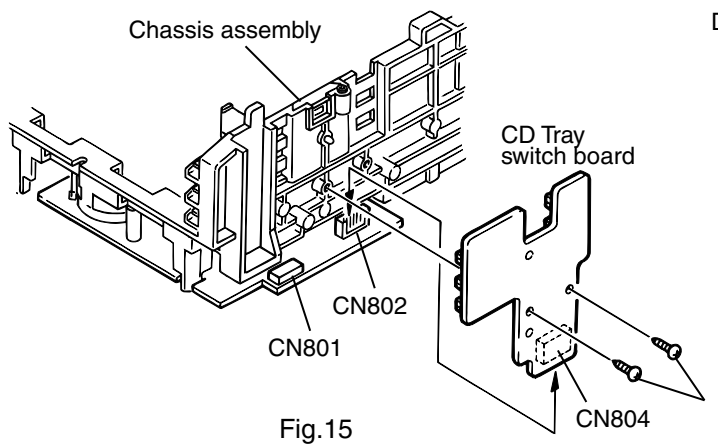

Fig.15
3. Remove the two screws I retaining the tray select switch board(See Fig.15).
### ■ Removing the can unit (See Fig.15 ~ 18)
2. While turning the cam gear L, align the pawl n position of the drive unit to the notch position(Fig.15) on the cam gear L.